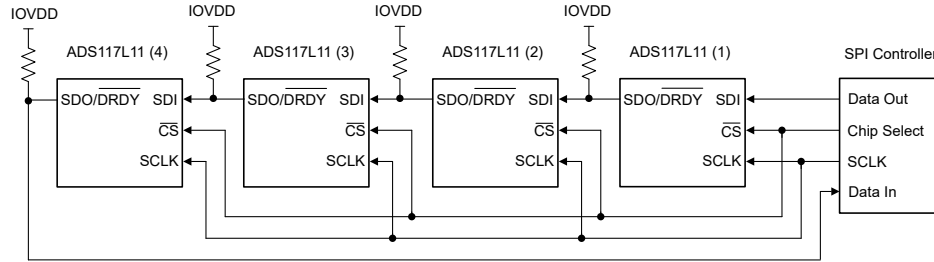

图 8-36. Daisy-Chain Connection
图 8-36 illustrates four devices connected in a daisy-chain configuration. The SDI of ADS117L11 (1) connects to the host SPI data out, and SDO/ $\overline{\text{DRDY}}$ of ADS117L11 (4) connects to the host SPI data input. The shift operation is simultaneous for all devices in the chain. After each ADC shifts out the conversion data, the data of SDI appears on SDO/ $\overline{\text{DRDY}}$ to drive the SDI of the next device in the chain. The shift operation continues until the last device in the chain is reached. The SPI frame ends when $\overline{\text{CS}}$ is taken high, at which time the data shifted into each device is interpreted. The SDO/ $\overline{\text{DRDY}}$ pin must be programmed to data output-only mode.
图 8-38 shows the detailed input data sequence for the daisy-chain write register operation of 图 8-36. 32-bit frames for each ADC are shown (16 bits of data, with the STATUS and CRC bytes enabled). Command operations can be different for each ADC. The read register operation requires a second frame operation to read out the register data.
图 8-39 illustrates the clock sequence to read conversion data from the device connection in 图 8-36. This example illustrates a 24-bit output frame (16-bits of data, with the CRC byte enabled). The output data of ADC (4) is first in the sequence, followed by the data of ADC (3), and so on. The total number of clocks required to shift out the data is given by the number of bits per frame $\times$ the number of devices in the chain. In this example, 24-bit output frames $\times$ four devices result in 96 total clocks.